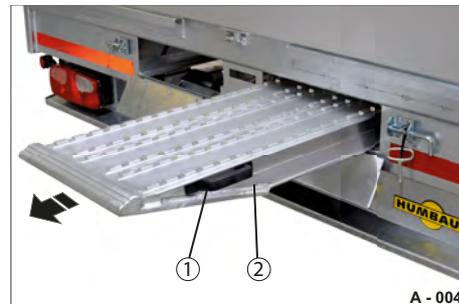

Fig. 7 Pulling out the ramp plank
- ▶ Grip the handle (Fig. 7/1) and pull out the ramp plank (Fig. 7/2) slightly.
- ▶ Pull the ramp plank (Fig. 7/2) in stages with both hands out of the ramp plank bay up to the stop, not completely.